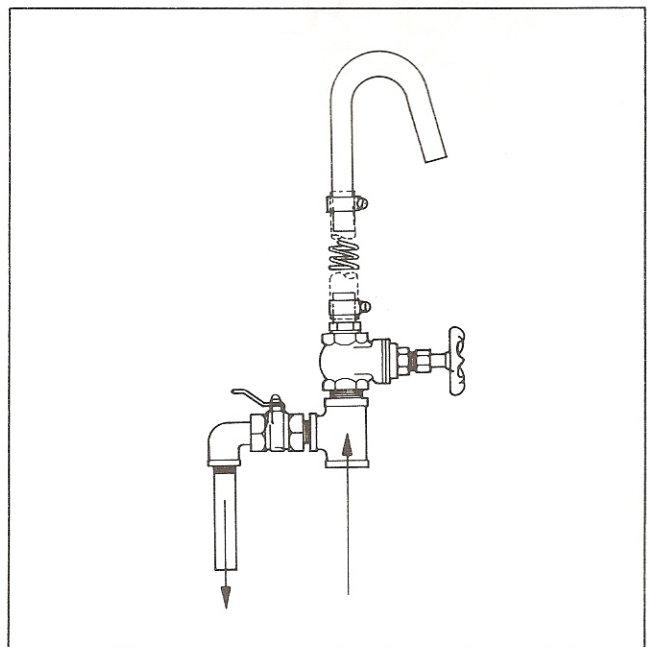

Figure 7. Type B2GV System
- c. **Type B2GV By-Pass (Figure 7):** Same as B2 except gate valve substituted for pinch valve.